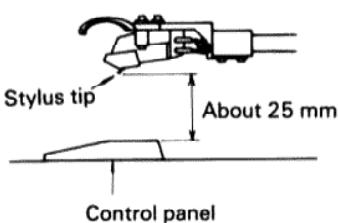

Fig. 3
1. With the arm clamped to the rest, loosen the tonearm height adjustment screws with a provided hexagonal key as shown. Then, adjust the arm height by moving the arm up and down so that the stylus tip is about 25 mm up from the control panel. (See Fig. 3.)